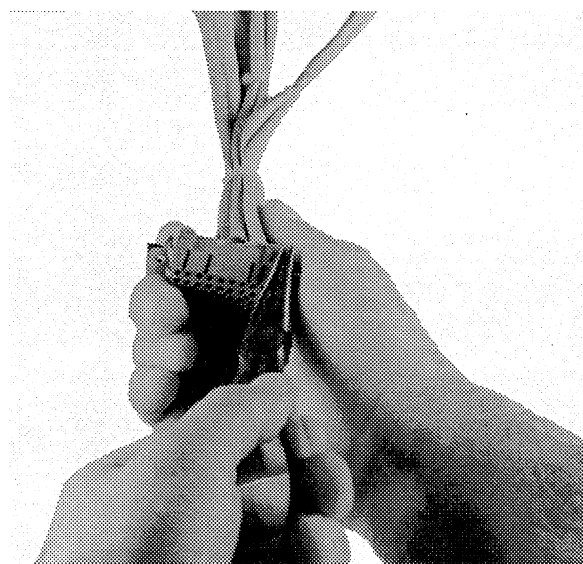

Figure 10. Adapter bracket locking tabs.
3. Hold the adapter bracket tight to the trip unit connector and bend the two locking tabs on the adapter bracket over the connector body, as shown in Figure 10.